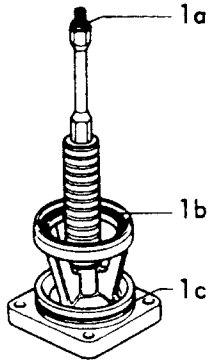

Fig. 1
1. Check that the seatings of filter housing and cover are clean, and fit the rubber rings 1a, 1b and 1c . (Fig. 1.)